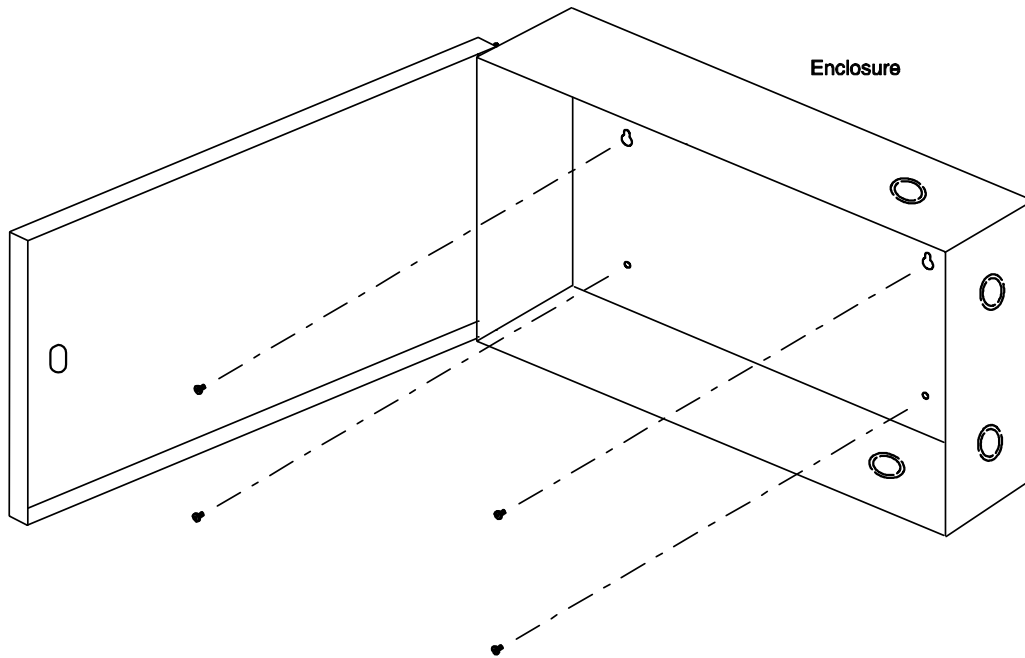

Figure 10. Touch Screen Power Supply Enclosure
The power supply enclosure is shown in Figure 10 (for clarity the power supply is not shown).
2. Using the power supply enclosure as a template, mark the back mounting hole locations as indicated in Figure 10. Ensure that at least one side is over a wall stud.